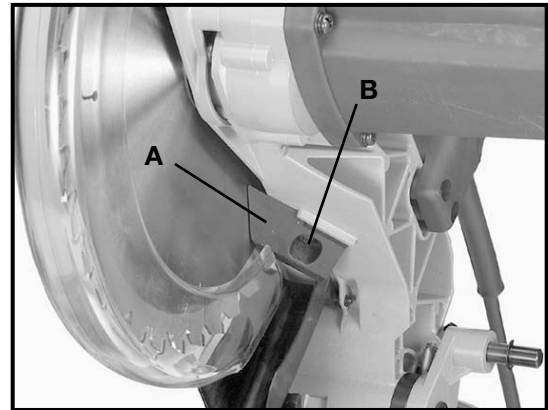

Fig. 22
2. A chip deflector (A) Fig. 22, is supplied to help prevent scrap or cut-off pieces from entering the upper blade guard. The chip deflector (A) should be adjusted so that it is almost touching the side of the blade by loosening screw (B), adjusting chip deflector (A) and tightening screw (B).